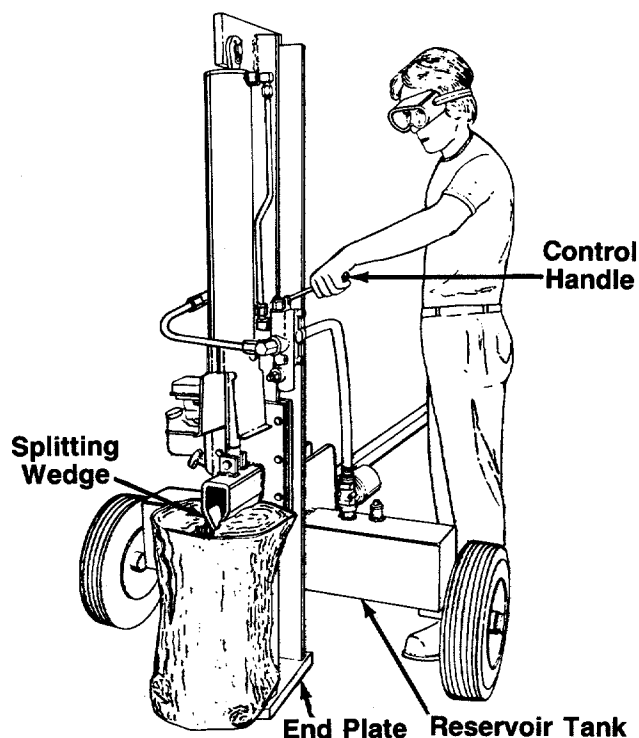

FIGURE 16.—Vertical Operation
Use the log splitter only on a level, hard surface. Never stand next to the splitting wedge when operating the log splitter. Always stand behind the reservoir tank. See figures 16 and 17. Never attempt to cut a log in half sideways. Always split the log lengthwise. Maximum length of log to be split is 24".
- **Step behind the reservoir tank** (see figures 16 or 17) and push the control handle in forward position until the log is split.